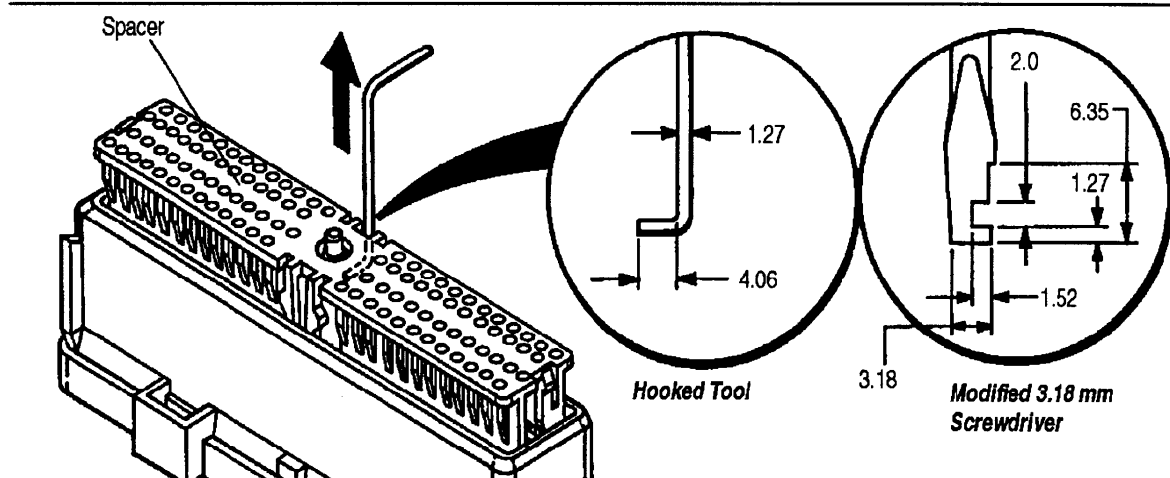

Figure 6
2. Insert a modified 3.18 mm flat blade screwdriver or hooked tool into opening on either side of jackscrew. Rotate tool 90° and pull spacer straight out from the plug housing. See Figure 6.